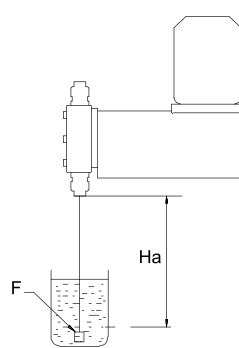

Fig.3
Fig.3: Long sized pipework (L) requires the installation of a damper which is to be placed as close as possible to the pump.  $L1$  = Maximum 10 metres water column.